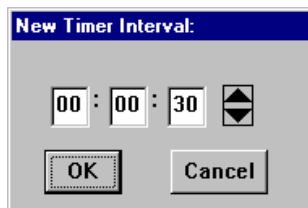

Figure 2-10. New Timer Interval Window
1. Click on  next to the **Peak Rate (sec):** field. The New Timer Interval window, Figure 2-10, will appear.